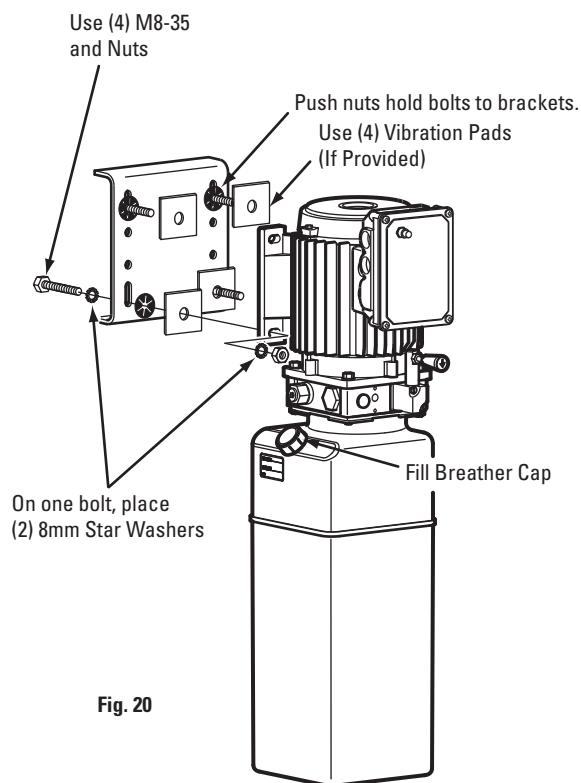

Fig. 20
- A. Put (4) M8-35 hex bolts through holes in column bracket using push nuts to hold in place.
- B. Mount power unit, with motor up, to column bracket and install lock washers and nuts, Fig. 20. Run hydraulic hose from runway through slot in side of runway to power unit output port, Fig. 22. DO NOT use Teflon tape on hydraulic hose connections.